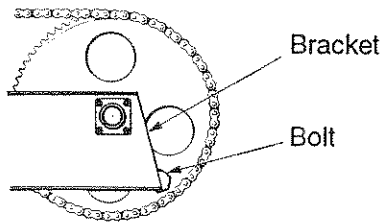

Fig. 15
1. Use the **manual operator pendant, (MOP)**, to advance the knotter until the head of the needle yoke drive rod bolt is centered on the rear edge of the RH shaft support bracket, see **Fig. 15**.